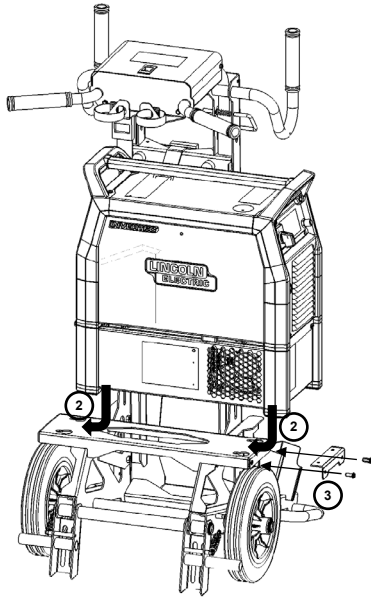

Figure 4
2. Slide the Power Source+Cooler into the holes on plate (Figure 4).
3. Screw the blocking metal to avoid movement of full equipment (Figure 4)..